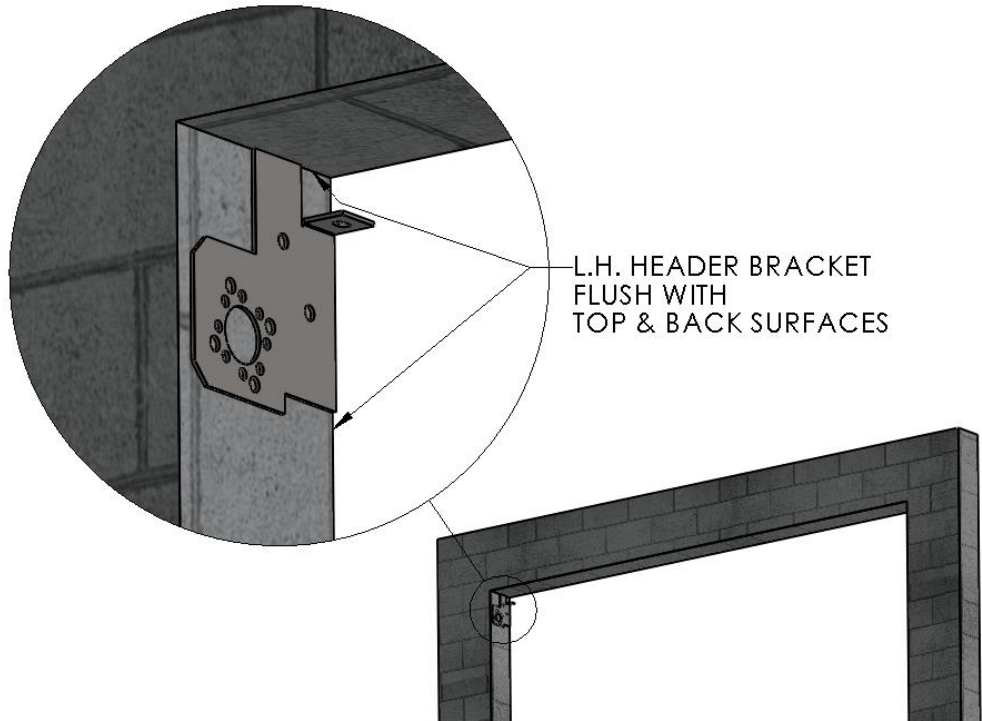
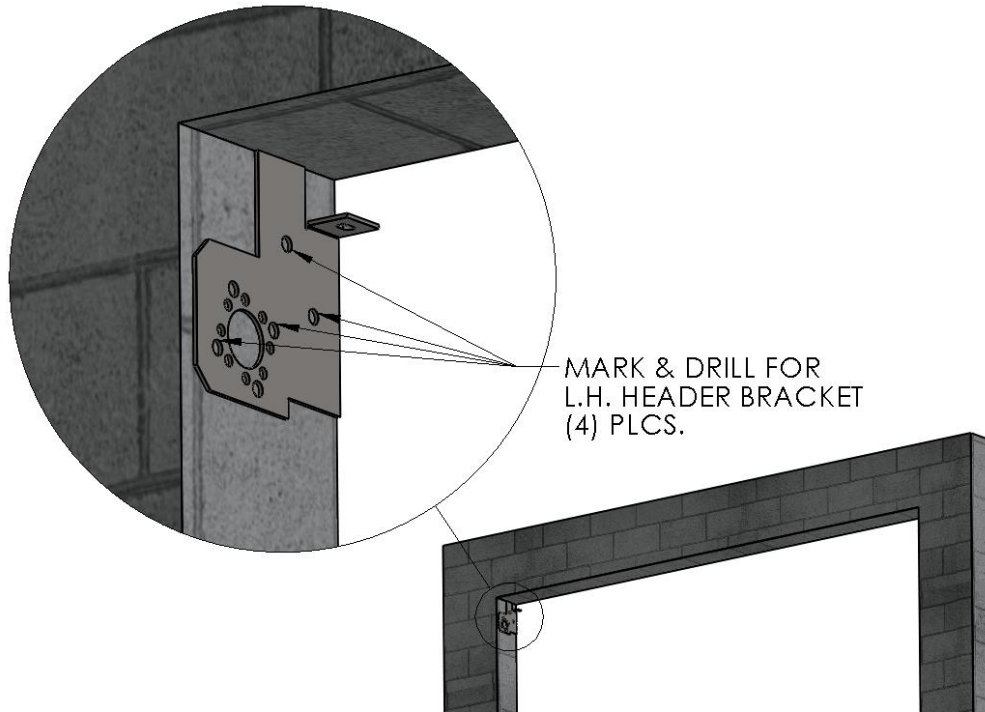

Figure 1 LOCATE L.H.HEADER MOUNTING BRACKET
Figure 2 MARK/DRILL L.H. HEADER MOUNTING BRACKET
1. At the upper left of the door opening, use the *L.H.* Header Mounting Bracket to transfer hole locations to the mounting surface.(Figure 1 LOCATE *L.H.*HEADER MOUNTING BRACKET) & (Figure 2 MARK/DRILL *L.H.* HEADER MOUNTING BRACKET)